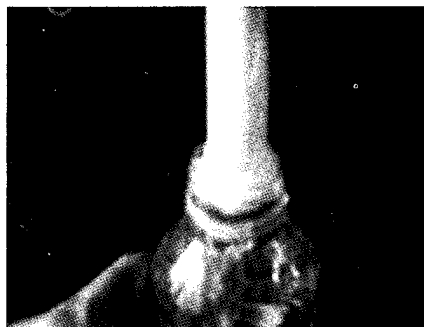

Figure 4. Overflowing the container
3. Allow the container to overflow for about a minute keeping the opening of the faucet below the water level and replace the cap so that no air bubbles are entrained. See Figure 4. Avoid excessive agitation that will dissolve